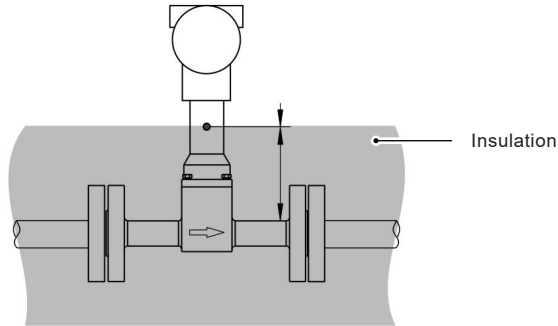

Fig. 10 Insulation of the meter tube
- If, in the case of existing pipeline insulation, it is installed inside the insulation (the maximum thickness shown in Fig. 10 must not be exceeded).